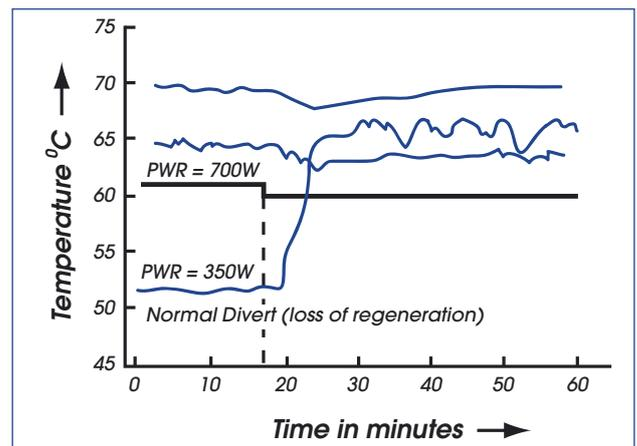

Fig 2: Controlling power consumption with and without a recycle-loop. Product temperature T_1 controlling power (PWR).
- iv) the effect of recycling heated product through the heat exchanger on control action (Fig 2)